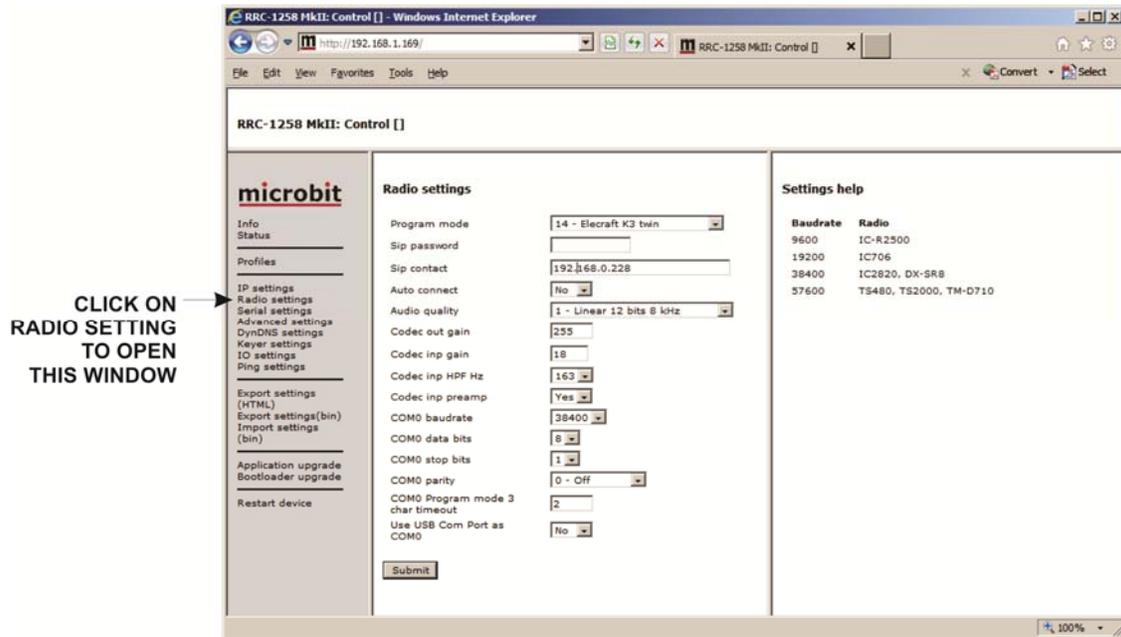

Figure 6
- Open your computer browser and enter the I.P. address of the RR-1256 unit on the browser's address bar to open the Microbit program window shown in Figure 6. Unless you changed it in step five, the I.P. address is **192.168.1.169**. Click on Radio in the left menu to open the screen shown.